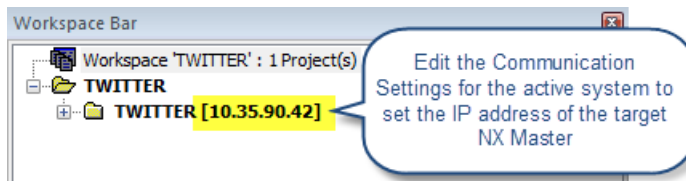

FIG. 200 NetLinX Studio 4 Select Files for File Transfer dialog (Current Workspace tab) - Projects directory selected
- a. Select **Settings > Active System Communication Settings** to open the *Communication Settings* dialog. Use the options in this dialog to establish a connection to the target NX Master (FIG. 200):